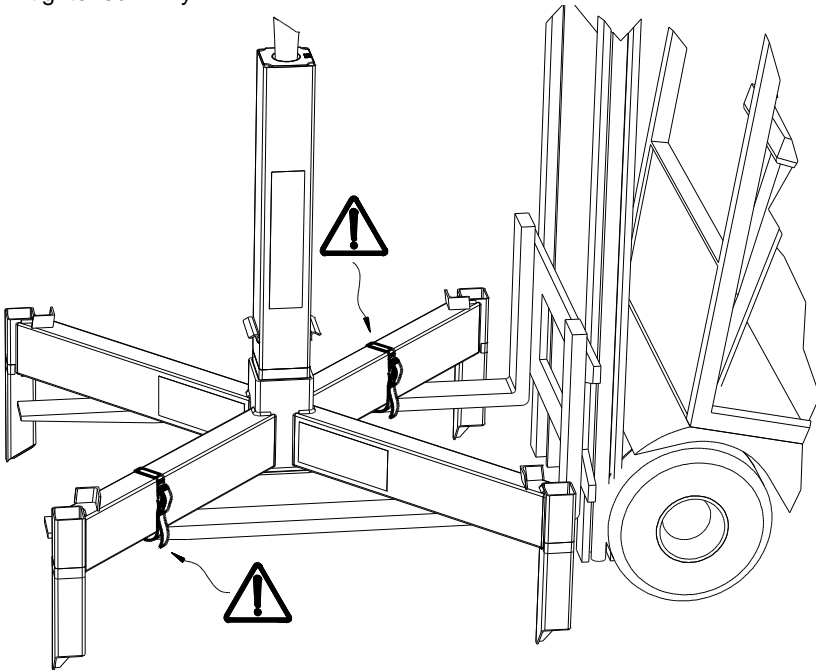

Figure 30. Use the included COMBISTRAPS to secure the TOP FRAME to the forks prior to lifting.
9. Using a forklift truck, place the forks underneath the horizontal tubes of the TOP FRAME, spread the forks as wide as possible and then secure the TOP FRAME assembly with the two supplied COMBISTRAPS before lifting. Straps shall be attached diagonally to each fork on truck to ensure a safe lift, see Figure 30 below. Remember that the straps should be tightened firmly.